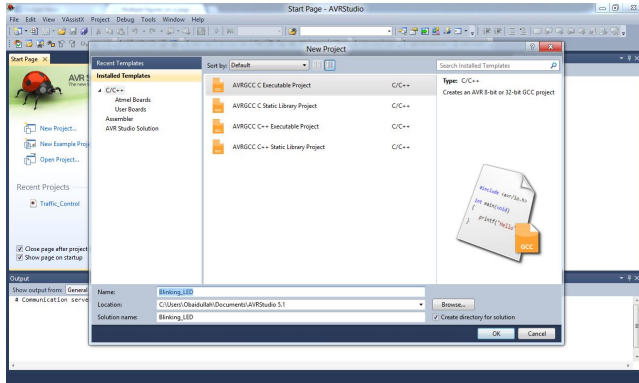

Figure 3: Creating a new project in AVR Studio
- Goto Options/LED settings and change the options as shown in figure 3.